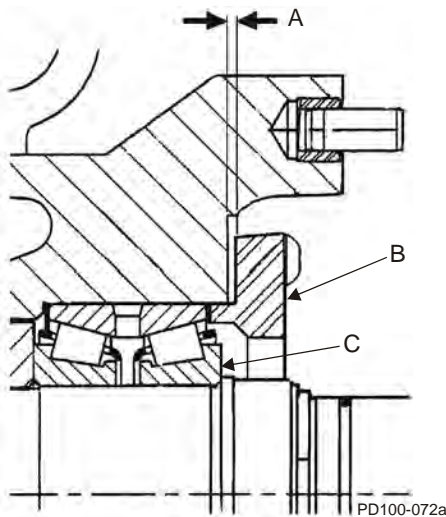

Figure 53 - Bearing Retainer Clearance
5. The bearing retainer must rest firmly against the bearing. Leave a 0.010 to 0.050 in (0.25 to 1.25 mm) clearance (Figure 53, item A) between the back of the bearing retainer (item B) and the front of the gear case (item C). If this clearance is not met, place shims between the bearing and the retainer.